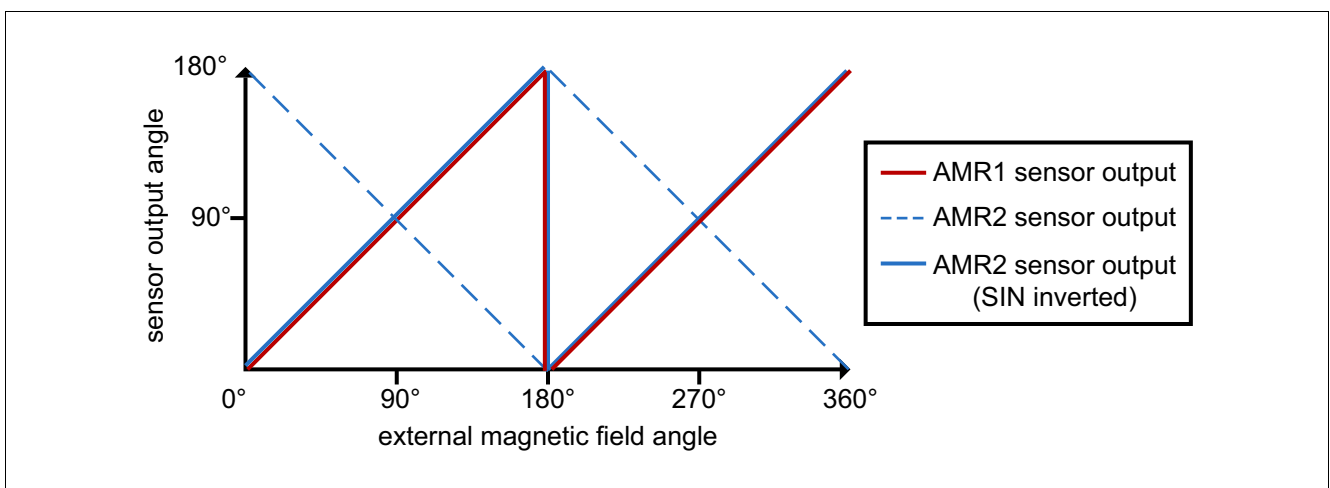
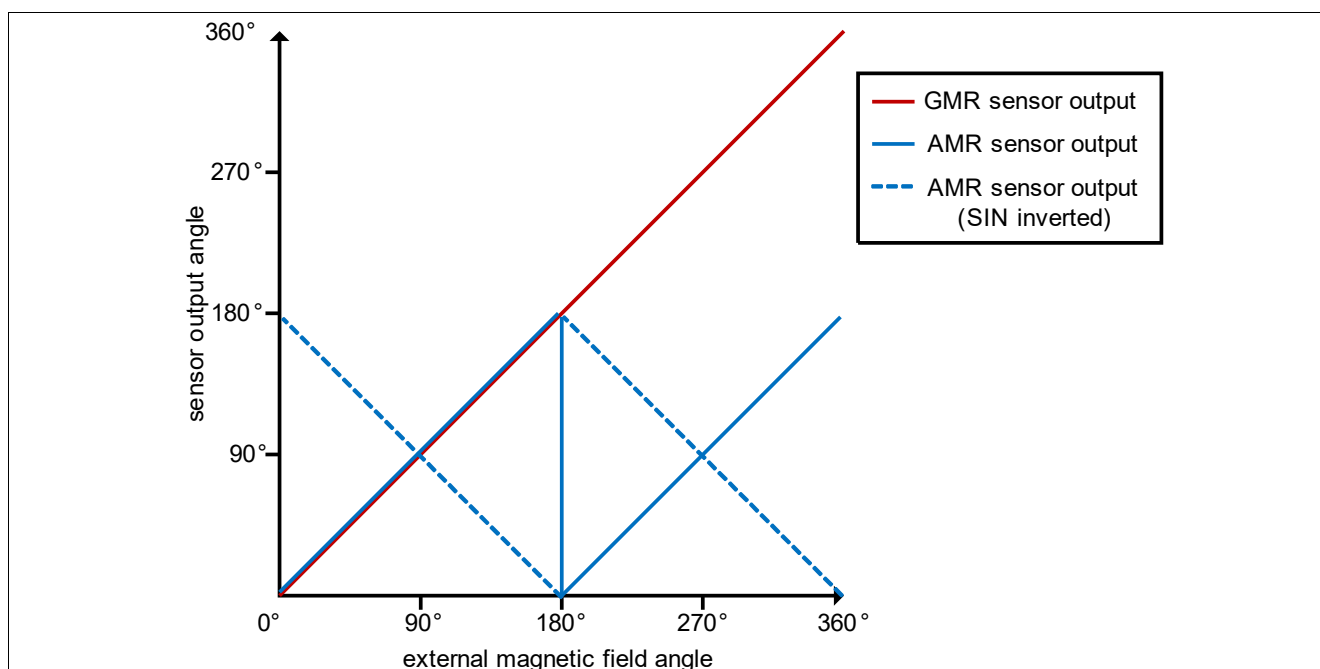

Figure 9 TLE5109A16D Dual die angle output
Figure 10 TLE5309D Dual die angle output
The TLE5109A16D consists of two AMR ICs sense opposite rotation directions. This behavior is illustrated in **Figure 9**, which shows the angle calculated from the output of the two dies, respectively, for a given external magnetic field orientation.
The bottom sensor element of the TLE5309D is an AMR sensor, the signal of which is only unambiguous over 180°. Therefore, in the angle range of 180° to 360° of the GMR sensor, the AMR sensor output signal will be in a range of 0° to 180° again. This behavior is illustrated in **Figure 10**, which shows the angle calculated according to **Equation (1)** and **Equation (2)** from the output of the GMR and AMR sensors, respectively, for a given external magnetic field orientation.
If in an application a different output of the two sensors is desired, the connections to the SIN_N and SIN_P or COS_N and COS_P pins on the printed circuit board can be interchanged. The consequence of this change of connections is that either the differential sine or the cosine signal are inverted, which corresponds to a change of rotation direction (see dashed line in **Figure 9** and **Figure 10**).